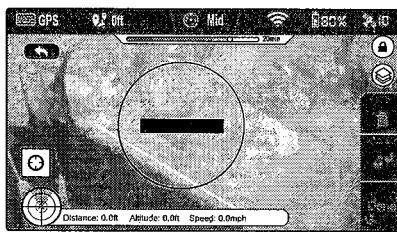

Figure 104
- A circle on the map, as shown in Figure 104, indicates a restricted, No Waypoint area. Waypoints cannot be placed in this area. For more information, refer to "6.2 Flight Restriction of Restricted Areas (P30)".